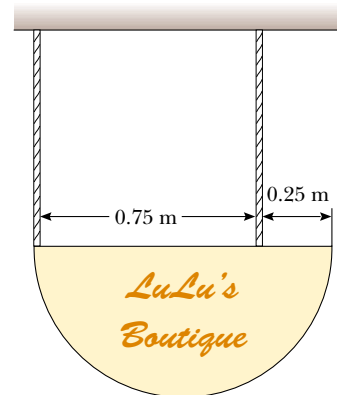

Figure P12.20
20. A hemispherical sign 1.00 m in diameter and of uniform mass density is supported by two strings, as shown in Figure P12.20. What fraction of the sign's weight is supported by each string?